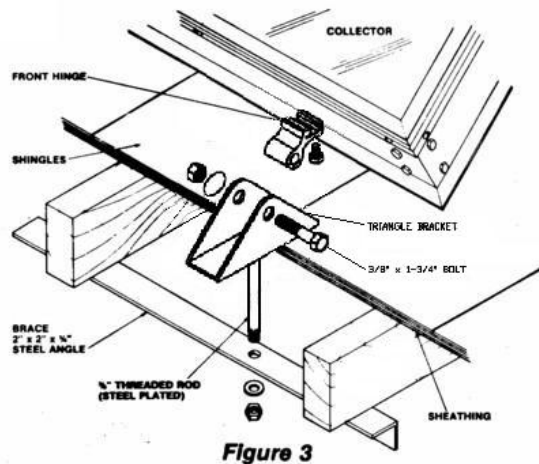

Figure 3
Provided in the TSI package is specially designed mounting hardware to speed collector installation. This hardware consists of four LOCK-TIGHT hinge sets, four roof brackets, two rear struts, and bolts (Figures 3, 4, and 5).
- (a) The location of the collectors is established and angle brackets are fastened to the roof in the same manner as the standard brackets in Figure 3.